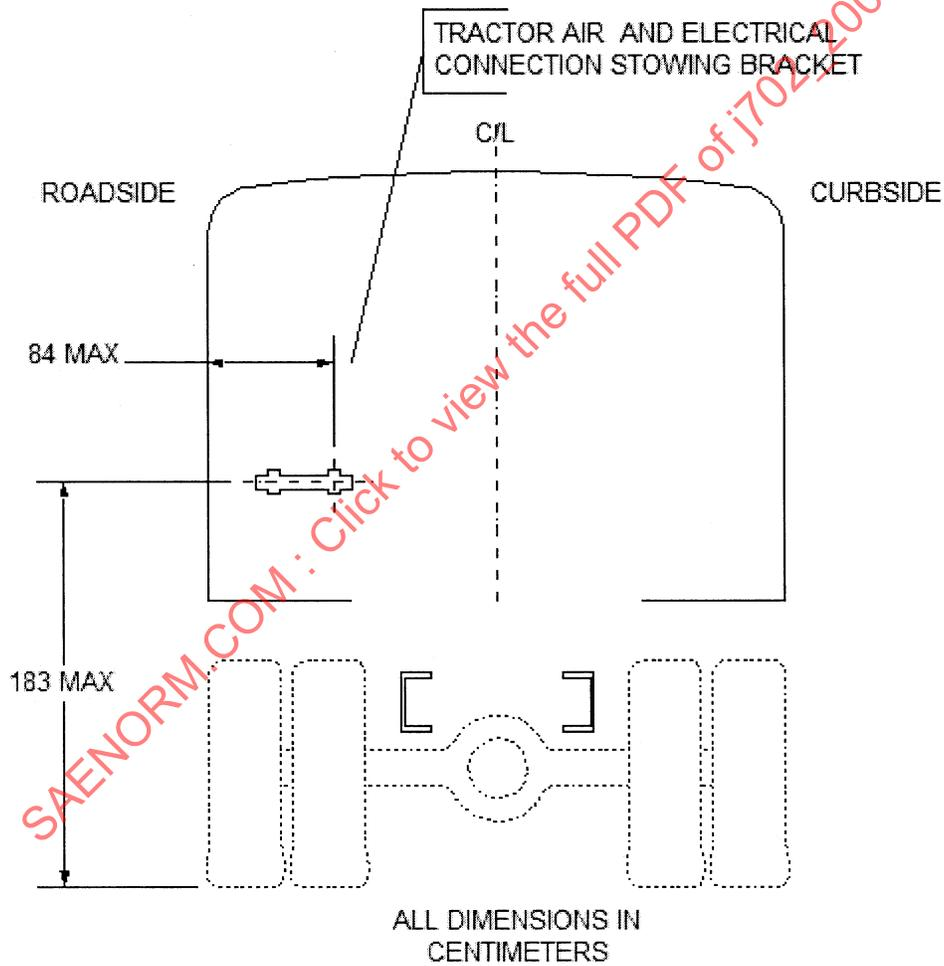

FIGURE 1—BACK OF CAB - RECOMMENDED LOCATIONS
**3.1 Truck-Tractor Fittings**—Fittings for stowing the cable and hose shall be located on the back of the cab within the area shown in Figure 1. For ergonomic reasons, connections should be located as low and as far roadside as possible.